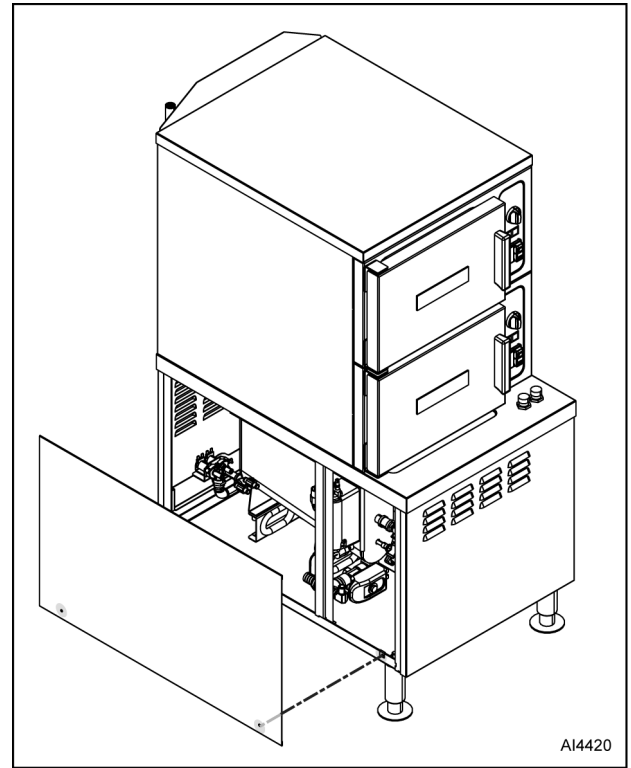

Fig. 4
1. Remove two screws from locations noted in Fig. 4.